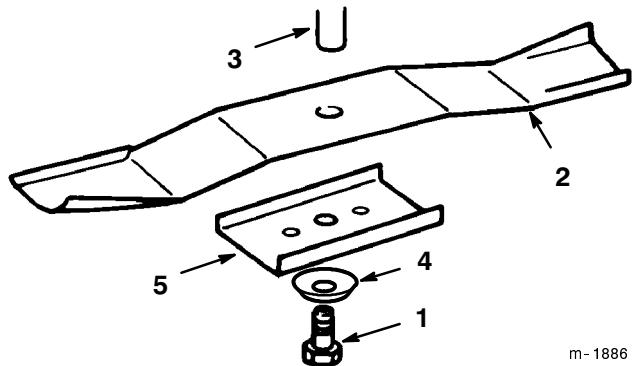

Figure 37
3. Remove the bolt (5/8 in. wrench), curved washer, retainer, and blade (Fig. 37). A block of wood may be wedged between the blade and the mower to lock the blade when you are removing the bolt.
1. Install the blade, blade retainer, curved washer (cupped side toward blade), and the blade bolt (Fig. 37).